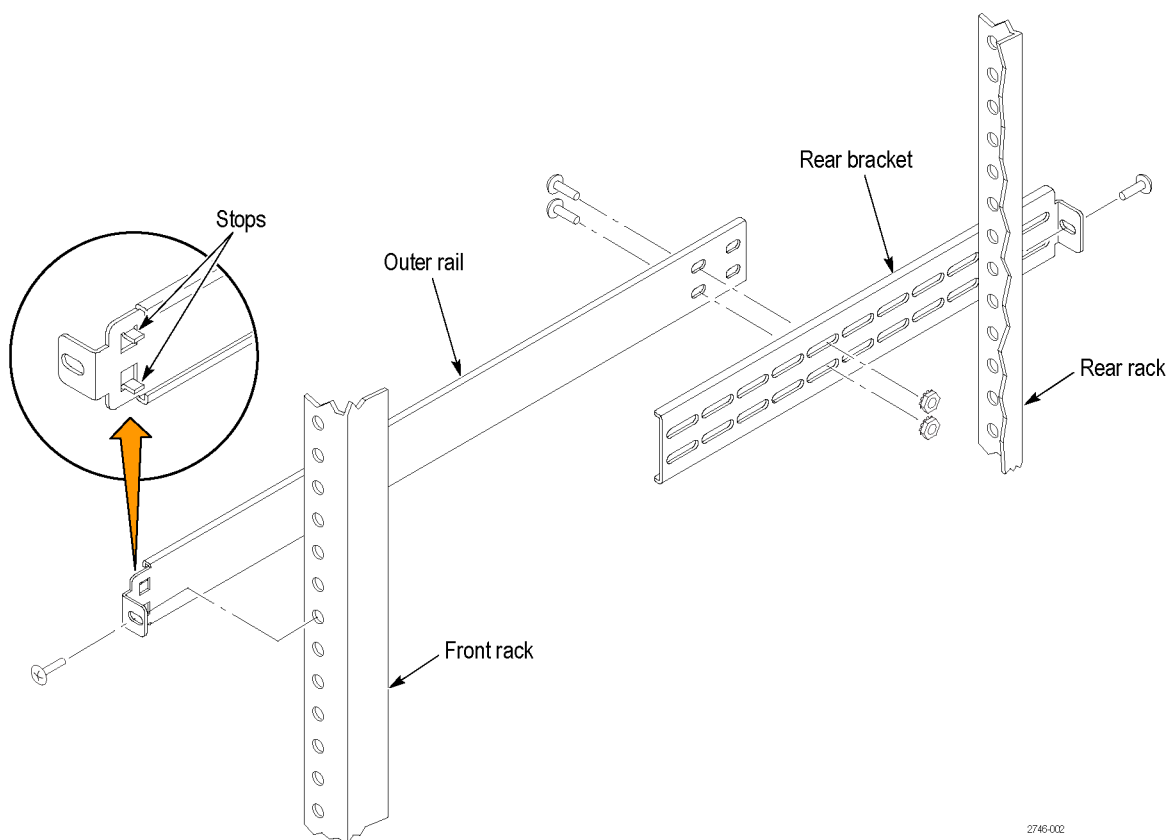

Figure 4: Assembly and mounting of rails
2. Align the rear bracket to the right rail. Notice that the rear bracket has multiple pairs of mount-through holes. When aligning the bracket and rail, be sure to select a pair of holes that mount the rear bracket so that the flange-to-flange distance matches the front rail to rear rail spacing of the rackmount rack just measured in step 2. (See Figure 4.)